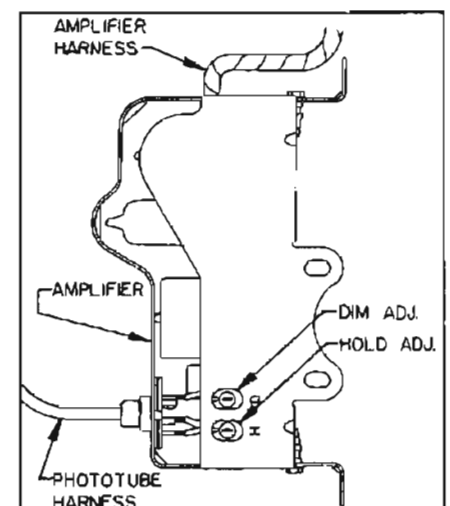

Figure 11-169—Amplifier Adjustments
(1) Hold and dim sensitivity controls are slotted for screwdriver adjustment and are located at the side of the amplifier unit. See Figure 11-169.
(2) Rotate the amplifier hold control completely clockwise.
(3) Rotate tester INTENSITY CONTROL all the way clockwise.
(4) Turn DIM-HOLD switch momentarily to DIM position to switch lights to lower beam, then switch back to HOLD position.
(1) Rotate amplifier dim control completely counterclockwise. See Figure 11-169.